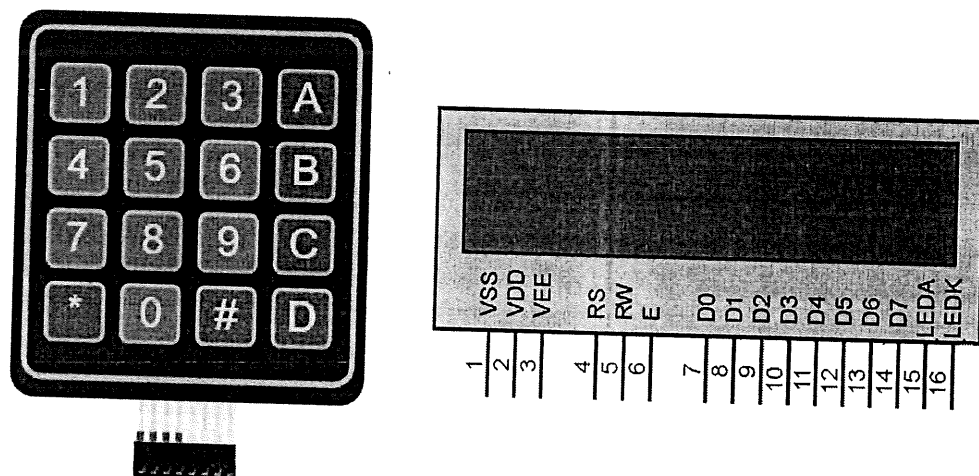

Figure 2: Keypad and LCD
- i. Referring to the LCD and keypad in figure 2, **produce** the wiring diagram between these devices and the Pi Pico microcontroller. For Pi Pico pin out, refer to figure 2 in question 2. (10 marks)